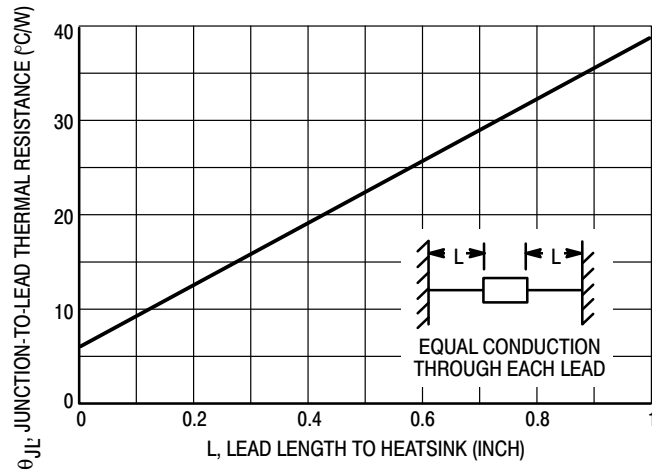
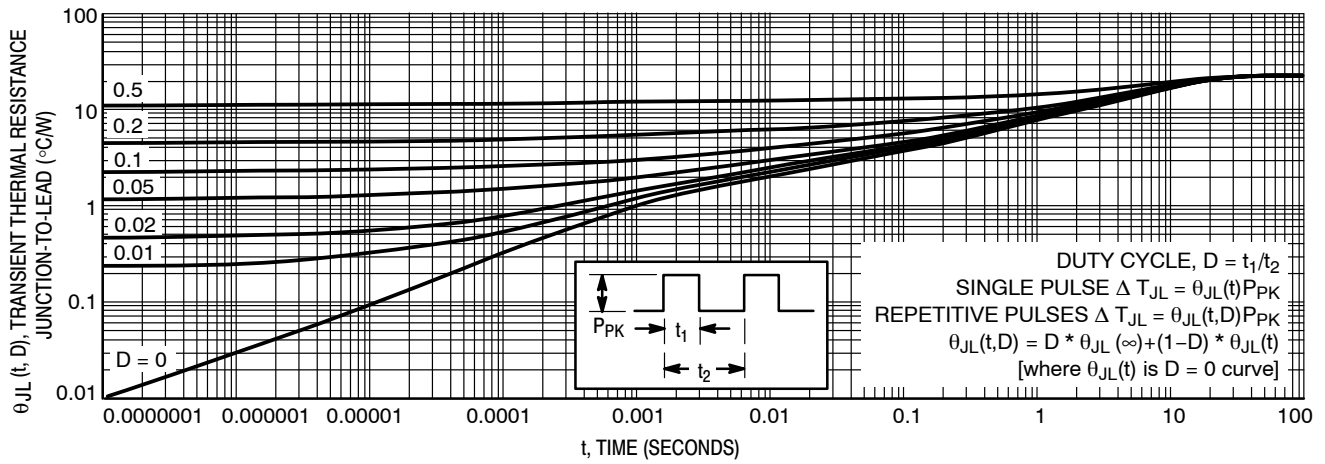
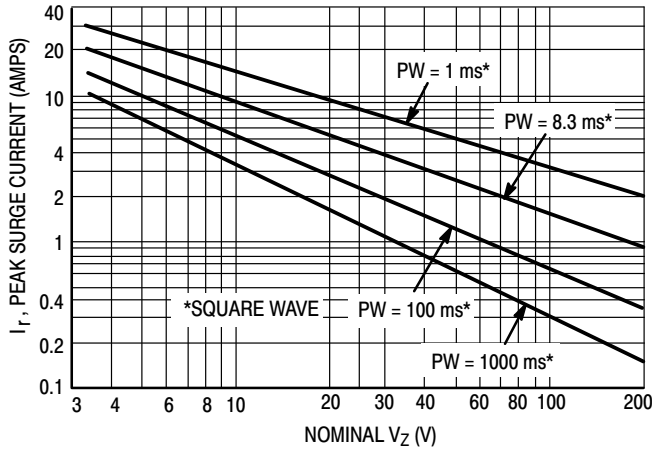
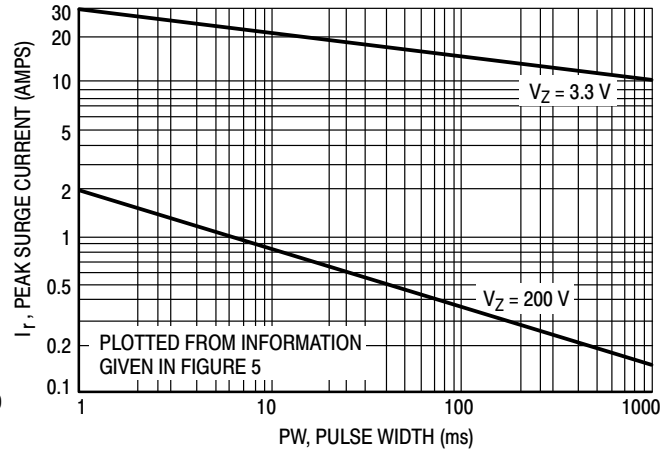

Figure 1. Typical Thermal Resistance
Figure 4. Typical Thermal Response
Figure 5. Maximum Non-Repetitive Surge Current
Figure 6. Peak Surge Current versus Pulse Width
- SURGE CURRENT (I_R):** Surge current is specified as the maximum allowable peak, non-recurrent square-wave current with a pulse width, PW, of 8.3 ms. The data given in Figure 5 may be used to find the maximum surge current for a square wave of any pulse width between 1 ms and 1000 ms by plotting the applicable points on logarithmic paper. Examples of this, using the 3.3 V and 200 V zener are shown in Figure 6. Mounting contact located as specified in Note 2 ($T_A = 25^\circ\text{C} + 8^\circ\text{C}, -2^\circ\text{C}$).
- SURGE CURRENT (I_R):** Surge current is specified as the maximum allowable peak, non-recurrent square-wave current with a pulse width, PW, of 8.3 ms. The data given in Figure 5 may be used to find the maximum surge current for a square wave of any pulse width between 1 ms and 1000 ms by plotting the applicable points on logarithmic paper. Examples of this, using the 3.3 V and 200 V zener are shown in Figure 6. Mounting contact located as specified in Note 7 (T_A = 25°C +8°C, -2°C).
ΔT_{JL} is the increase in junction temperature above the lead temperature and may be found from Figure 4 for a train of power pulses or from Figure 1 for dc power.
Data of Figure 4 should not be used to compute surge capability. Surge limitations are given in Figure 5. They are lower than would be expected by considering only junction temperature, as current crowding effects cause temperatures to be extremely high in small spots resulting in device degradation should the limits of Figure 5 be exceeded.